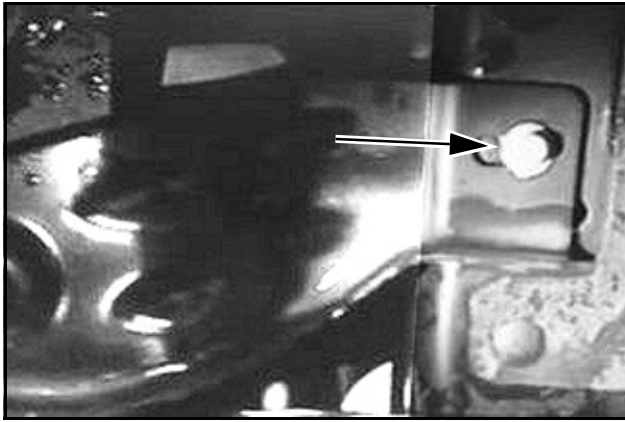

Figure 2
3. Temporarily remove the top intercooler bracket by removing two fasteners (one per side). Doing this will make step 4 much easier. (See Figure 2)